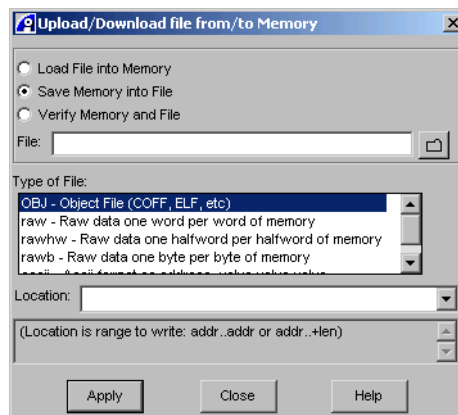

Figure 8-3 Upload/Download file from/to Memory dialog box
6. Select **Debug** → **Memory/Register Operations** → **Upload/Download Memory file...** from the Code window main menu to display the Upload/Download file from/to Memory dialog box, shown in Figure 8-3.
2. Select **Debug** → **Memory/Register Operations** → **Upload/Download Memory file...** from the Code window main menu to display the Upload/Download file from/to Memory dialog box (see Figure 8-3 on page 8-14).
2. Select **Debug → Memory/Register Operations → Upload/Download Memory file...** from the Code window main menu to display the Upload/Download file from/to Memory dialog box, shown in Figure 8-3 on page 8-14.